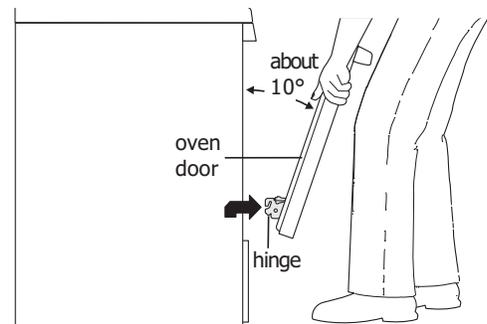

Figure 31: How to remove door
3. Firmly grasp both sides of oven door along the door sides (Do not use the oven door handle - Figure 31).
1. Firmly grasp both sides of oven door along the door sides (Do not use the oven door handle - Figure 31).